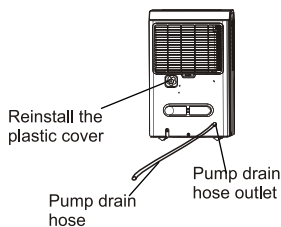

Fig.11
- Remove the continuous drain hose from the unit and install the plastic cover to the continuous drain hose outlet of the unit by clockwise rotation. (See Fig.11)
- Resert the pump drain hose into the pump drain hose outlet for depth of 15mm at least (See Fig.11), then lead the water hose to the floor drain or a suitable drainage facility.